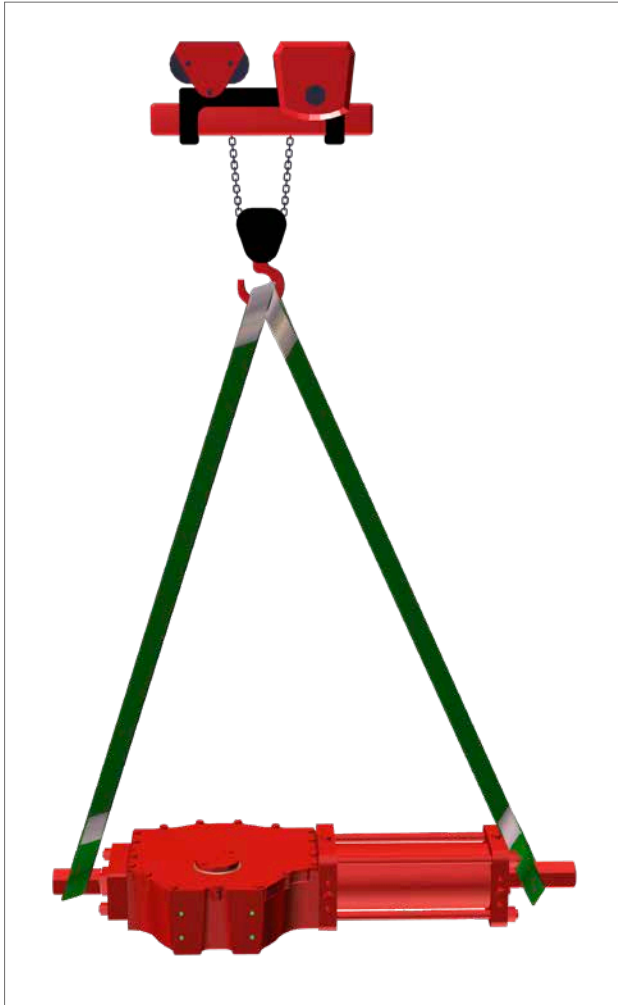

Fig 7.2 Lifting (double-acting actuator up to size 161)
- In case of double-acting actuator, hook a double chain sling on the lifting lug on the pneumatic cylinder and a textile sling on the centre body closure flange as shown in Fig 7.2.